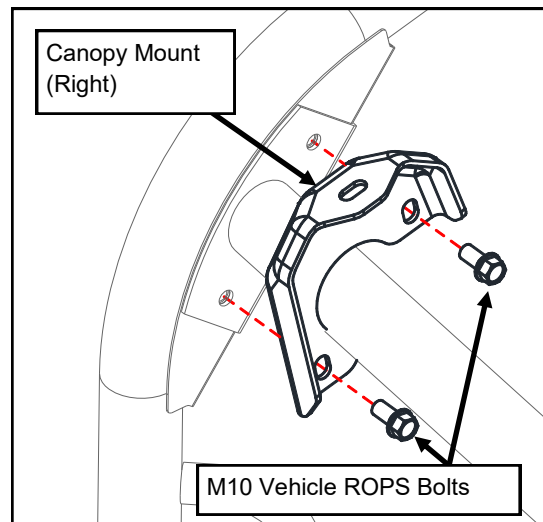

Fig. 2
2. Install right canopy mount, using ROPS bolts removed in step 1. Torque to 38 ft.-lbs. (See fig. 2)